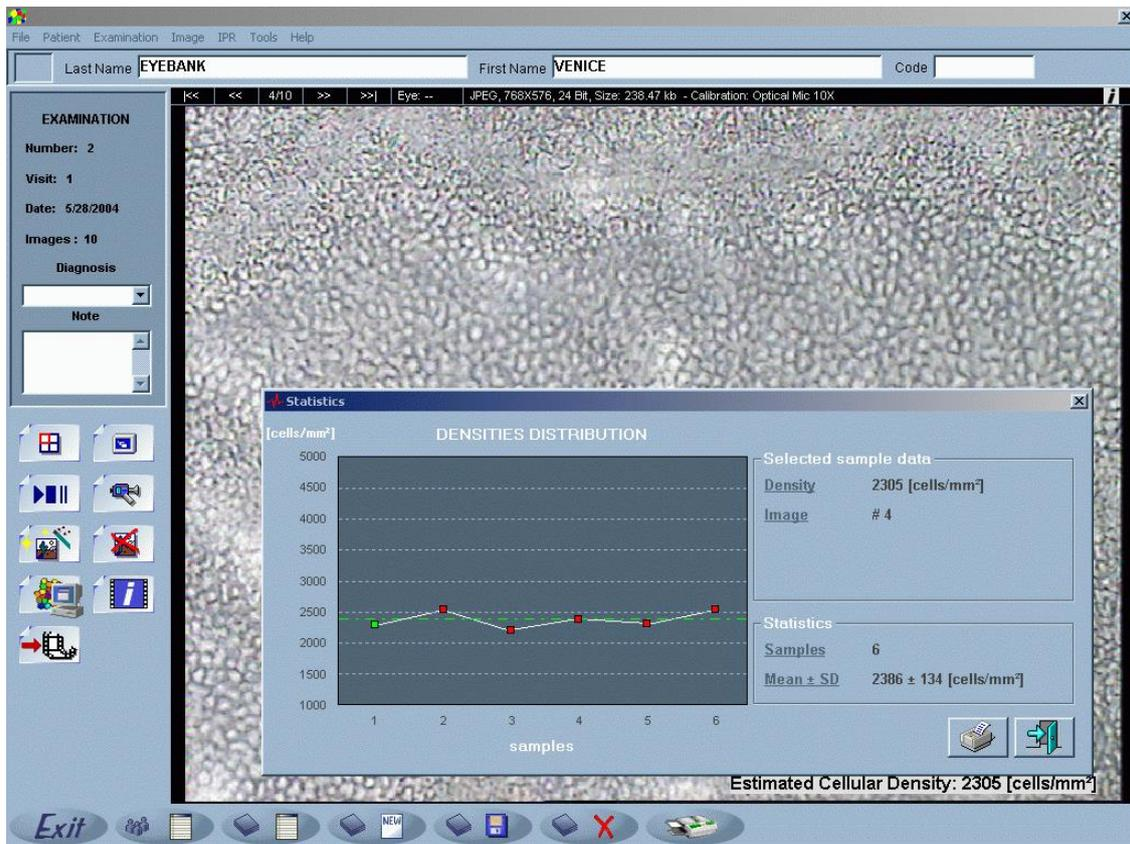

Figure 10 – Statistics panel
2. select one or more processed images. Right click on any of the selected images and select *Statistics* from the context menu (see fig 10).
The statistics panel (figure 10) shows information on: